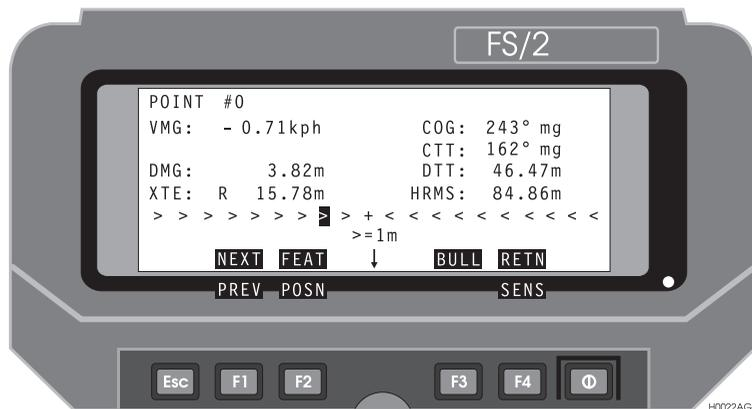

Figure 3.28: Horizontal Line Navigation Screen
1. Press **F1 (NAVI)**. The Horizontal Line Navigation screen appears, as shown in Figure 3.28. This screen directs you to the desired waypoint, as explained in Table 3.2.